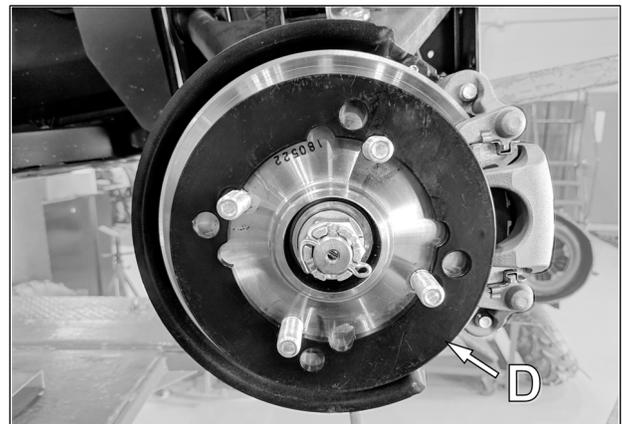

Fig. 10
- Install spacer (D) on rear wheel hub before installing Track system. See Fig. 10